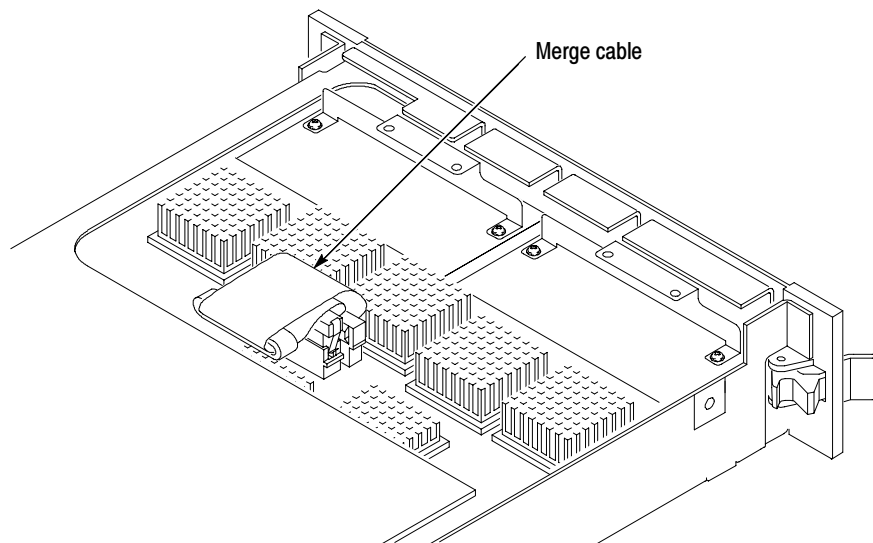

Figure 24: Positioning the merge cable before installing the cover
5. Position the merge cable as shown in Figure 24.